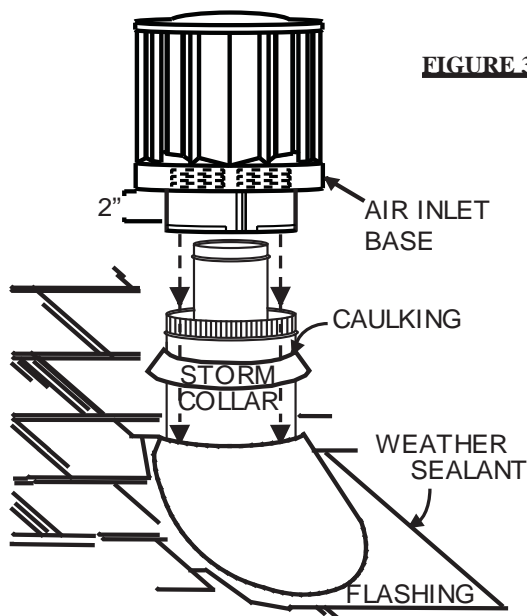

FIGURE 30
4. Thread the air terminal connector / vent pipe assembly down through the roof. The air terminal must be located vertically and plumb. Attach the air terminal connector to the roof support, ensuring that the top of the air terminal is 16" above the highest point that it penetrates the roof. Figure 30. **DO NOT CLAMP THE FLEX VENT PIPE.**
5. Remove nails from the shingles, above and to the sides of the chimney. Place the flashing over the air terminal connector leaving a min. 3/4" of the air terminal connector showing above the top of the flashing. Slide the flashing underneath the sides and upper edge of the shingles. Ensure that the air terminal connector is properly centred within the flashing, giving a 3/4" margin all around. Fasten to the roof. Do not nail through the lower portion of the flashing. Make weather-tight by sealing with caulking. Where possible, cover the sides and top edges of the flashing with roofing material. Figure 30.
6. Aligning the seams of the terminal and air terminal connector, place the terminal over the air terminal connector making sure the vent pipe goes into the hole in the terminal. Secure with the three screws provided. Figure 30.
7. Apply a heavy bead of weatherproof caulking 2" above the flashing. Note: Maintain a minimum 2" space between the air inlet base and the storm collar. Install the storm collar around the air terminal and slide down to the caulking. Tighten to ensure that a weather-tight seal between the air terminal and the collar is achieved. Figure 30.